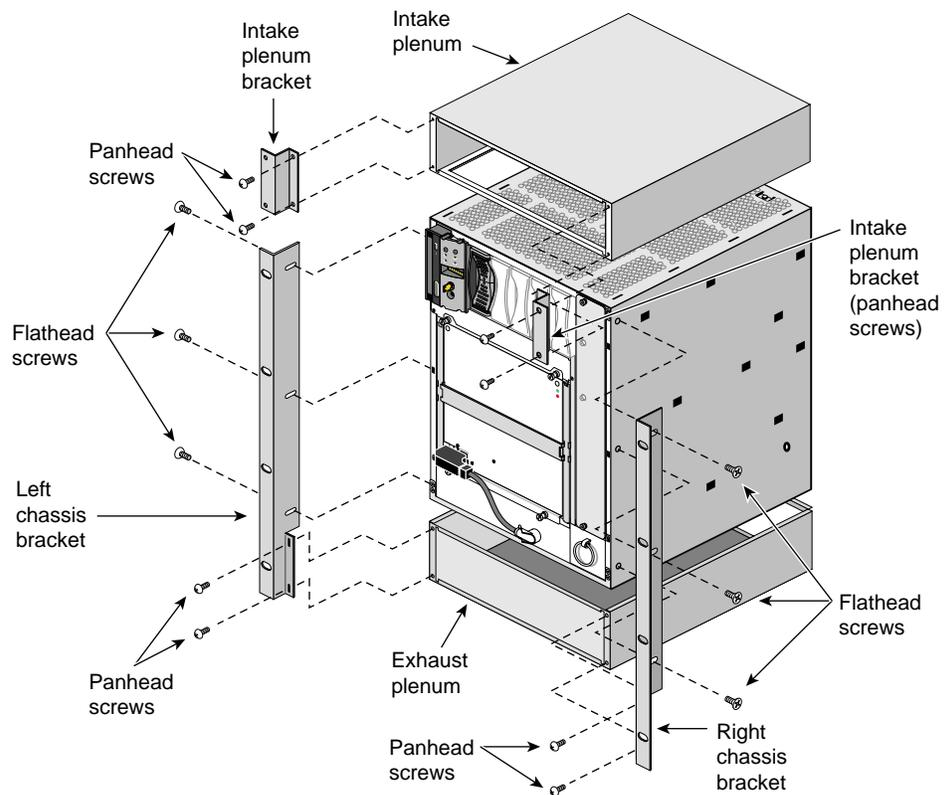

Figure 1-8 Attaching the Chassis Brackets
5. Position the exhaust plenum on the lower shelf assemblies and slide the plenum three-fourths of the way into the equipment rack (see Figure 1-8). Be sure the open side of the plenum is facing up and the open end is facing the rear.
6. Position the system chassis on top of the upper shelf assemblies and slide the system three-fourths of the way into the equipment rack (see Figure 1-8).
7. Loosely attach the left and right chassis brackets to the system chassis and the exhaust plenum with the flathead and panhead mounting screws (see Figure 1-8).
9. An intake plenum is required to ensure proper air flow when installing an SGI system in the bottom of an equipment rack or the top of an equipment rack with a covered top. If needed, position the intake plenum on top of the system chassis and attach the plenum brackets to the plenum with the mounting screws (see Figure 1-8). Be sure the open side of the plenum is facing down and the open end is facing the front.